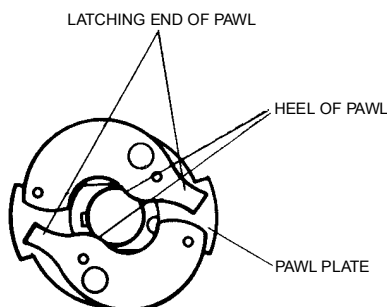

Figure 8.3C
10. Measure the clearance between the boss on the underside of each impulse pawl and the pawl plate using a feeler gage. Position the latching end of the impulse pawl over the pawl plate as shown in Figure 8.3C.